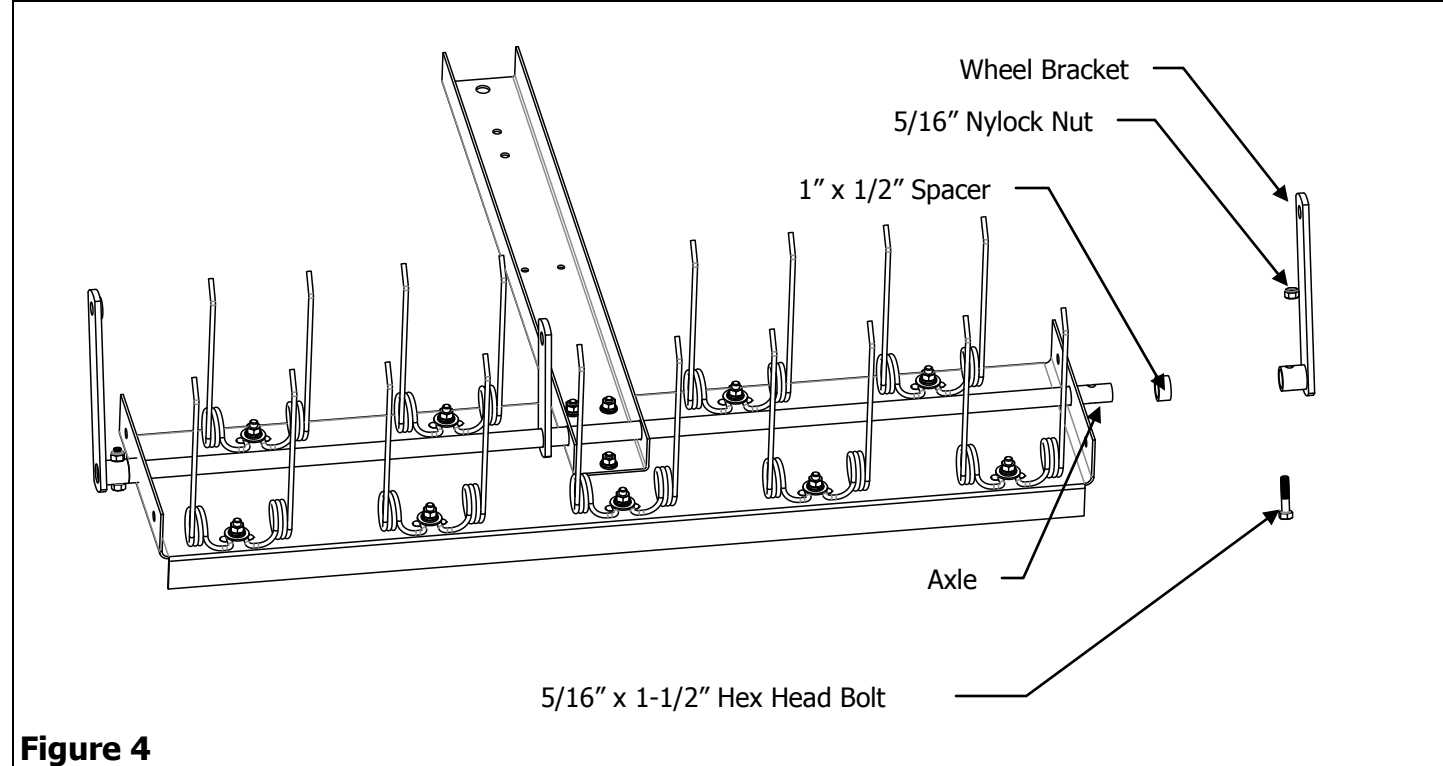

Figure 4
4. Place a 1" x 1/2" Spacer onto the Axle, followed by a Wheel Bracket. Align the hole of the Wheel Bracket with the hole in the Axle. Insert a 5/16" x 1-1/2" Hex Head Bolt into the hole in the Wheel Bracket and Axle. Secure with a 5/16" Nylock Nut. Repeat process on the other side with excepting of spacer, Add (3) 3/4" Flat Washers. See Figure 4.